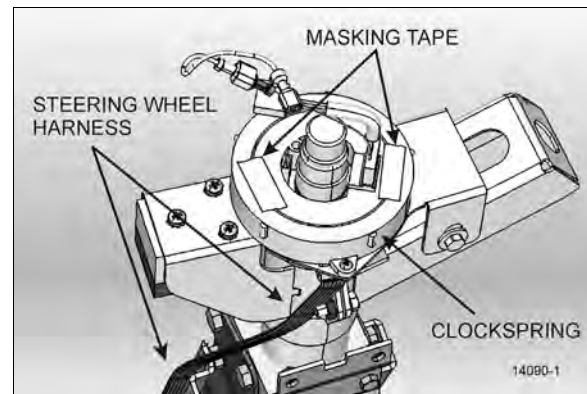

FIGURE 12: LOCKING THE CLOCKSPRING IN PLACE
7. Once the steering wheel is removed, it is important to block any rotating movement of the clockspring in order to prevent it from losing its neutral position. Use two pieces of masking tape to lock it in place (Figure 12).